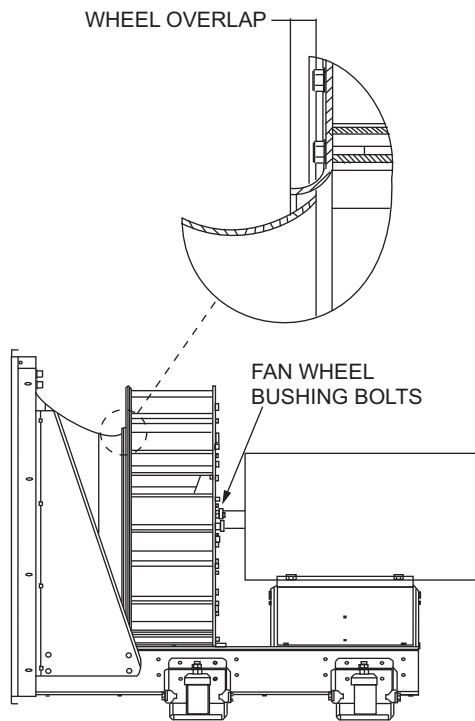

Fig. 185 — Fan Wheel Bushing Location
2. Check tightness of fan wheel bushing bolts (see Fig. 185) per Table 49 below.
4. Verify the fan wheel to inlet cone overlap (see Fig. 185) is within limits per Table 50 below.